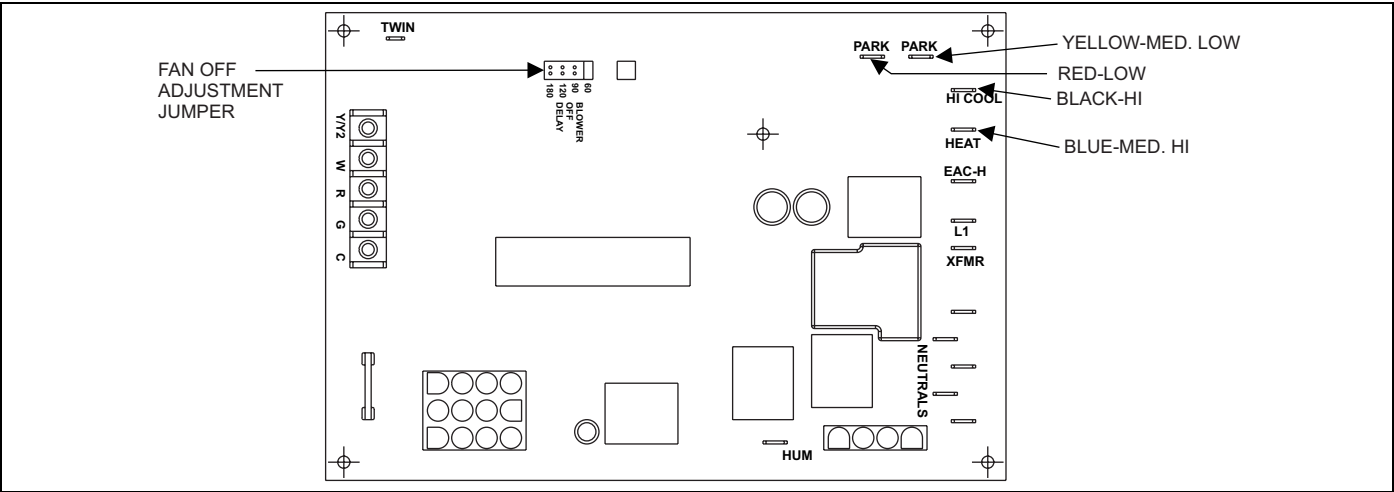

FIGURE 27: Furnace Control Board
- E. Use the 5/16" (7.94 mm x 1/8" (3.175 mm) reducing coupling and a 4" (101.6 mm) piece of 1/8" (3.175 mm) tubing to connect the positive side of the manometer to the gas valve pressure reference port. Refer to Figure 27 for connection details.
Remove the screws securing the burner box front cover plate. Remove the cover. The gasket and may stick in place. Connect the positive side of the manometer to the gas valve as described in E above. There will be no second connection to the manometer, as it will reference atmospheric pressure. Refer to Figure 27 for connection details.